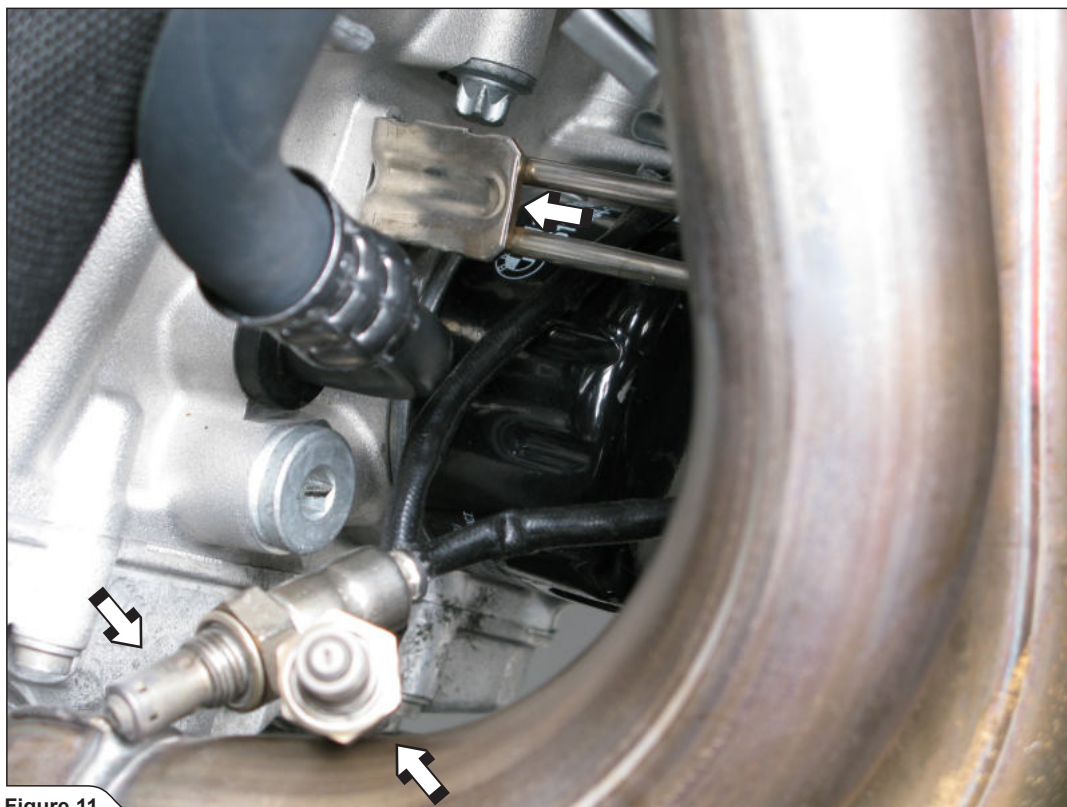

Figure 11
10. Unscrew the radiator's bracket off the engine block and both lambda sensors (Figure 11).